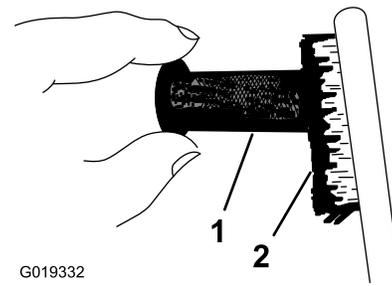

Figure 29
3. Use a brush to carefully remove carbon deposits from the spark-arrester screen (Figure 29).